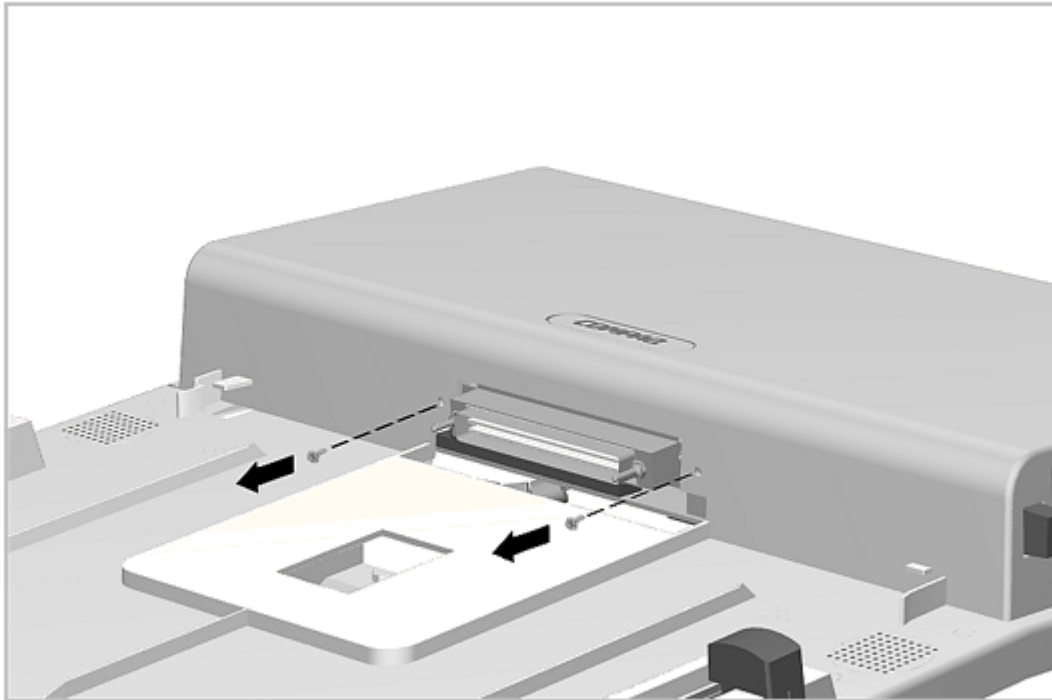

Figure 7-17. Removing the Computer Connector Screws
2. Remove the two shoulder screws from the computer connector as shown in Figure 7-17.